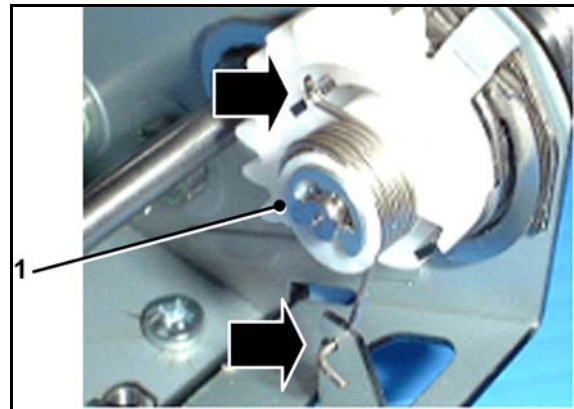

Figure 14
16. Unhook the two ends of the spring to release it (see Figure 14).
17. Remove the 'E' clip (1) from the end of the spindle. Discard the 'E' clip.